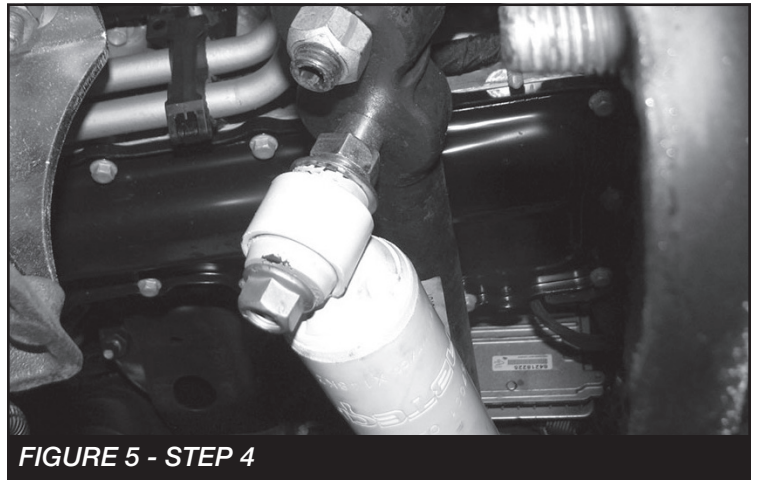

FIGURE 5 - STEP 4
4. Locate and Install the FT89031 (Stud) onto the center link. Torque to 49 ft-lbs. Next, Install the supplied FT402087 (Sleeve) and install in the shaft end of the FTS7001 Stabilizer. Install the body end of the stabilizer onto the installed stud. Torque to 49 ft-lbs. **SEE FIGURE 5**